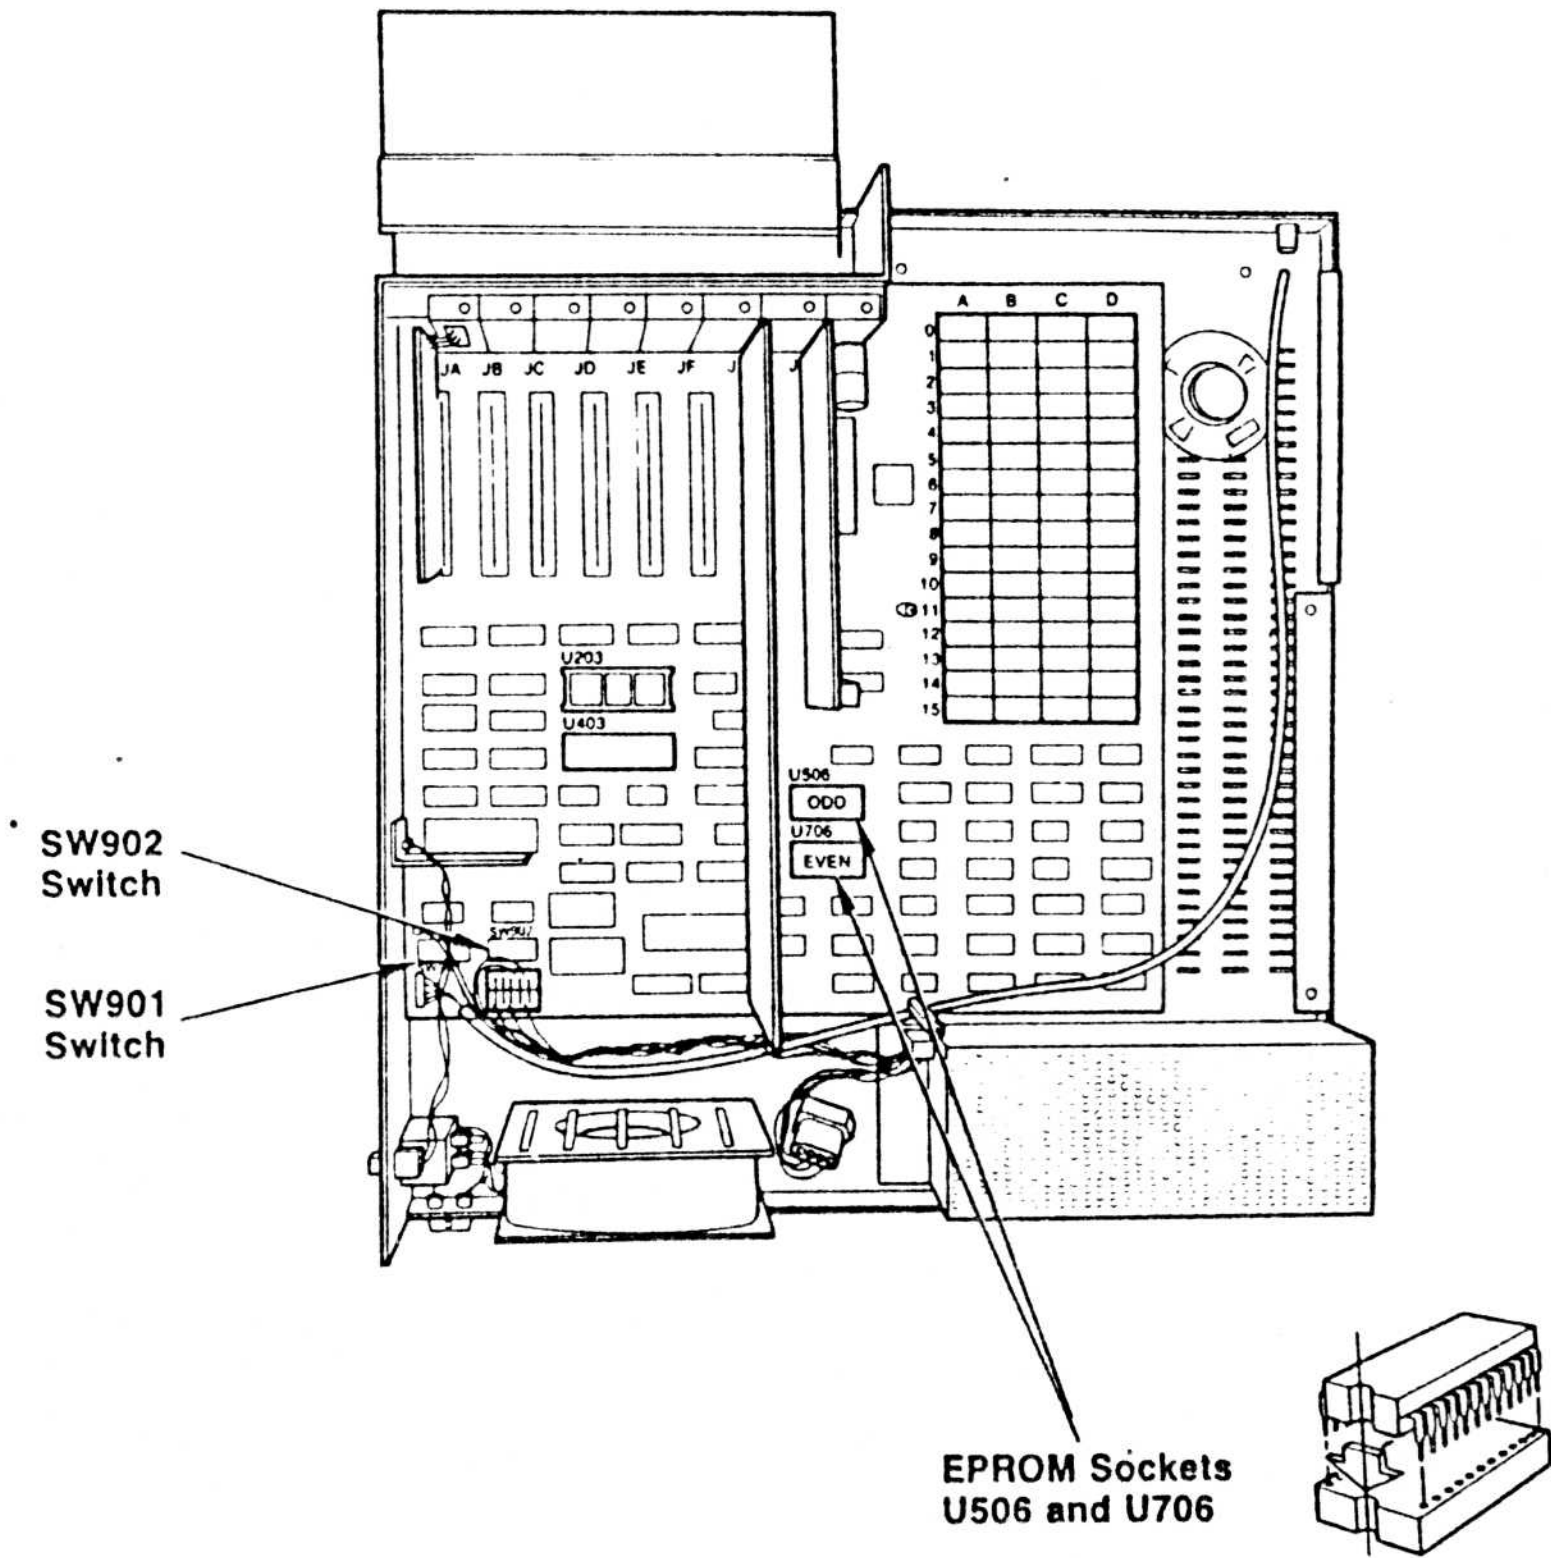
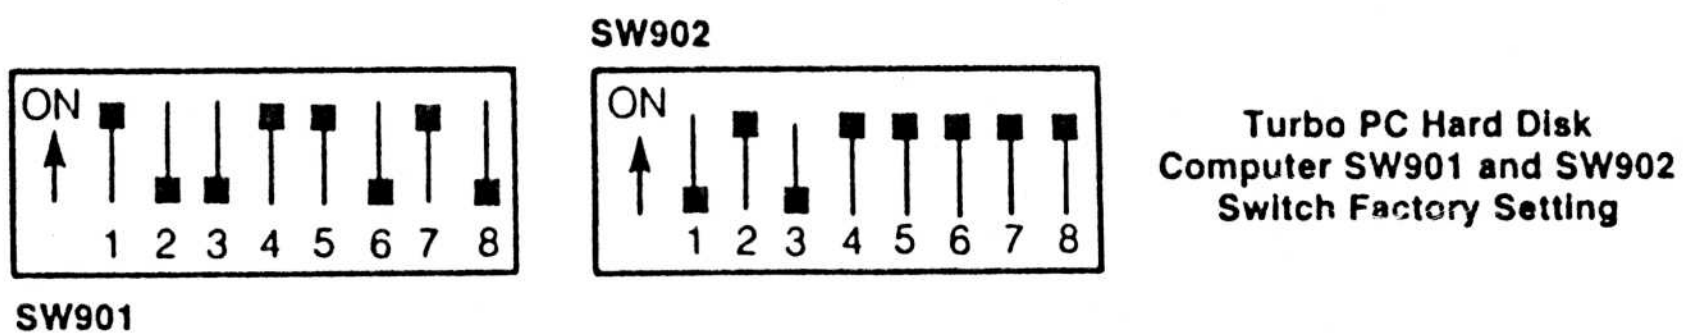

FIGURE 17: PC TURBO MAIN BOARD
FIGURE 18: SW901 & SW902 SWITCH EXAMPLE
- STEP 4** Remove the EPROM currently in the U506 socket on the main board. Remove the EPROM currently in the U706 socket on the main board. Refer to Figure 17 for the EPROM locations.
- STEP 6** Determine what type of EPROM you are installing, by reading the top of the chip. The second group of numbers indicate the type. For example, 62-2764-0007 indicates a .2764-25 type EPROM. Insert the EPROM marked "ODD" into the U506 socket on the main board. Insert the EPROM marked "EVEN" into the U706 socket on the main board. Refer to Figure 17 for the EPROM locations.
- STEP 7** Set positions 3 and 4 on the SW902 Switch to reflect the type of EPROM installed. If you have 2764-25 type EPROM's, set position 3 to OFF and position 4 to ON. If you have 27128-25 type EPROM's, set position 3 to ON and position 4 to OFF. See Figure 18 for an example of the switch and Figure 17 for the location of the switch.